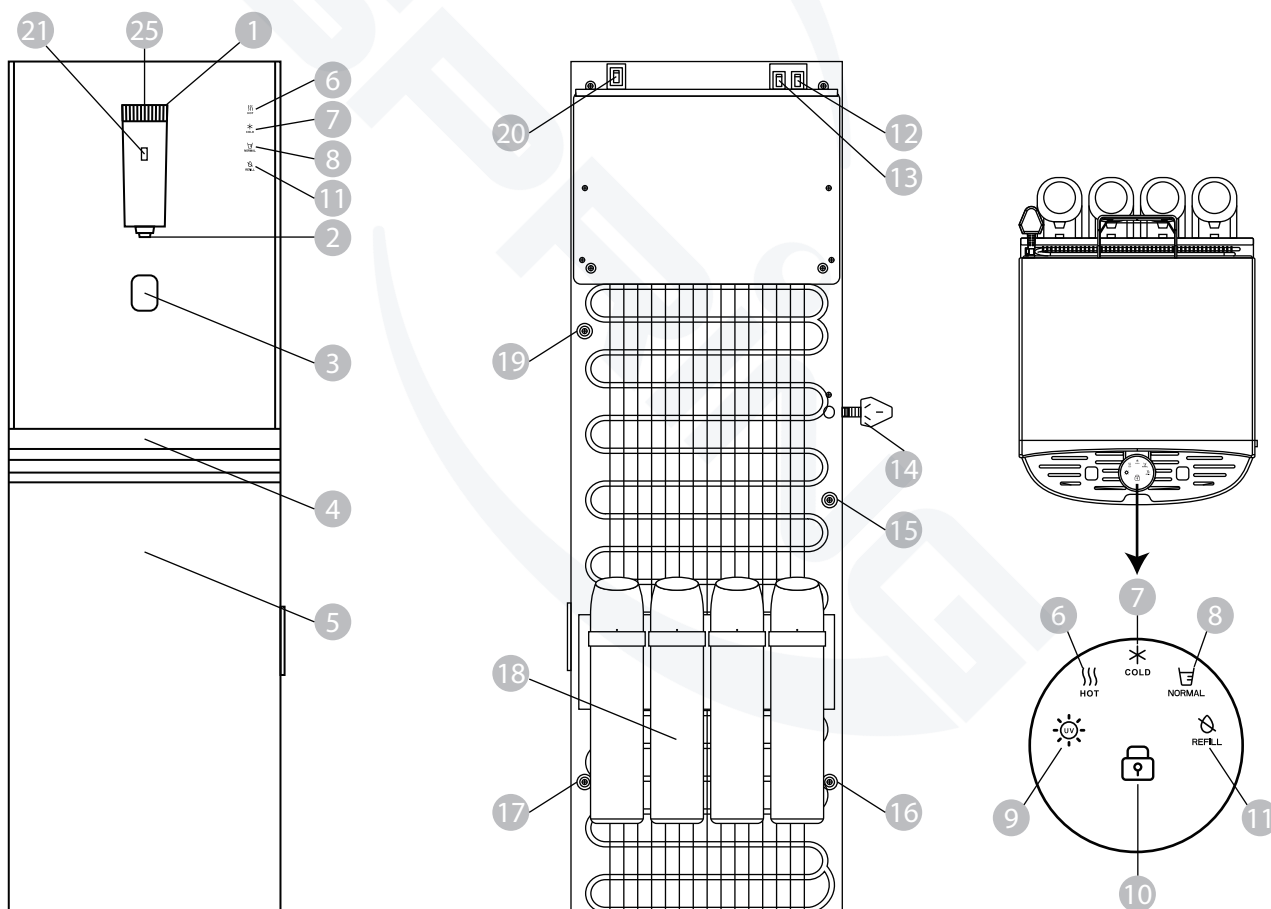

Figure 1
- Step 2.** Open the lower door panel (#5) and remove the water jug assembly from the unit. Take out the suction tube assembly (#24) from the water jug lid (#23). Unscrew the lid and rinse the water jug (#22) and suction tube assembly (#24) with clean water. Fill the jug with water, screw the lid back on tightly, and insert the suction tube through the inlet port of the lid so it reaches the bottom of the jug. Place the assembled water jug back into the unit and securely close the lower door (refer to Figures 1 and 2).
- Step 4.** Install the drip tray assembly (#4) into the slot on the lower door (see Figure 1).
- Step 5.** Remove the plugs from the filter outlet (#16), filter inlet (#17), and inlet valve port (#19) located on the back of the unit (see Figure 1).
- Step 7.** Hang the filter assembly onto the mounting slots at the back of the unit (see Figure 1).